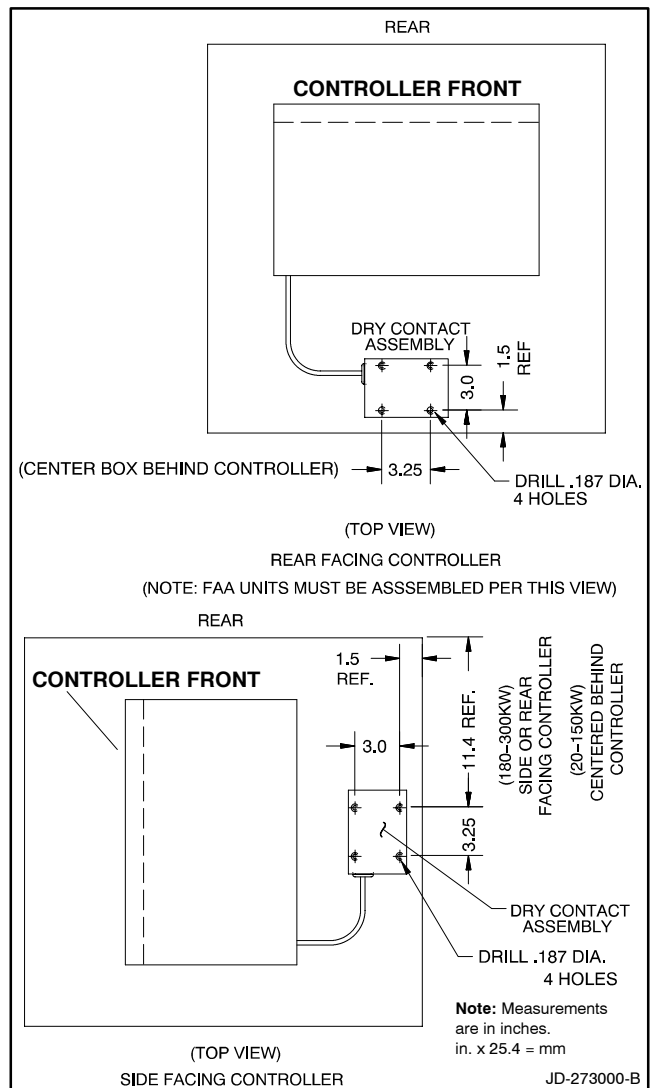

Figure 6 Junction Box Drilling Information (20-300 kW)
- 3.1.1 Drill four 4.7 mm (0.187 in.) dia. holes in the junction box as shown in Figure 6. The single-relay dry contact kit mounts behind the controller.
- 3.1.4 Using Figure 6, mount the single-relay dry contact box (A-273945) to the junction box using eight nuts (X-6210-4) and four vibromounts (259919).